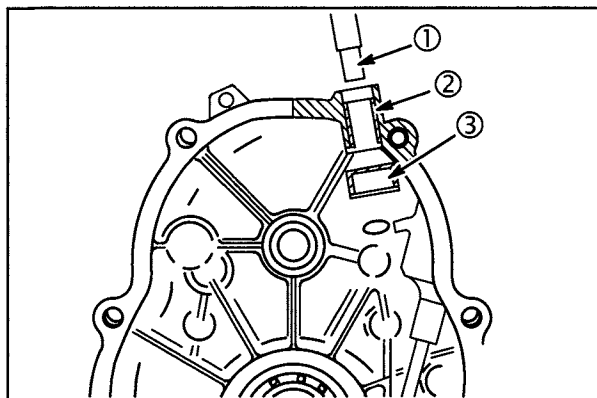

Fig. 9
1. Press out upper bushing (2) using Bushing Driver #19204 (1), **Fig. 9**.
**NOTE:** Lower bushing is a slip fit. If bearing for lower bushing (3) is worn, the crankcase cover must be replaced.